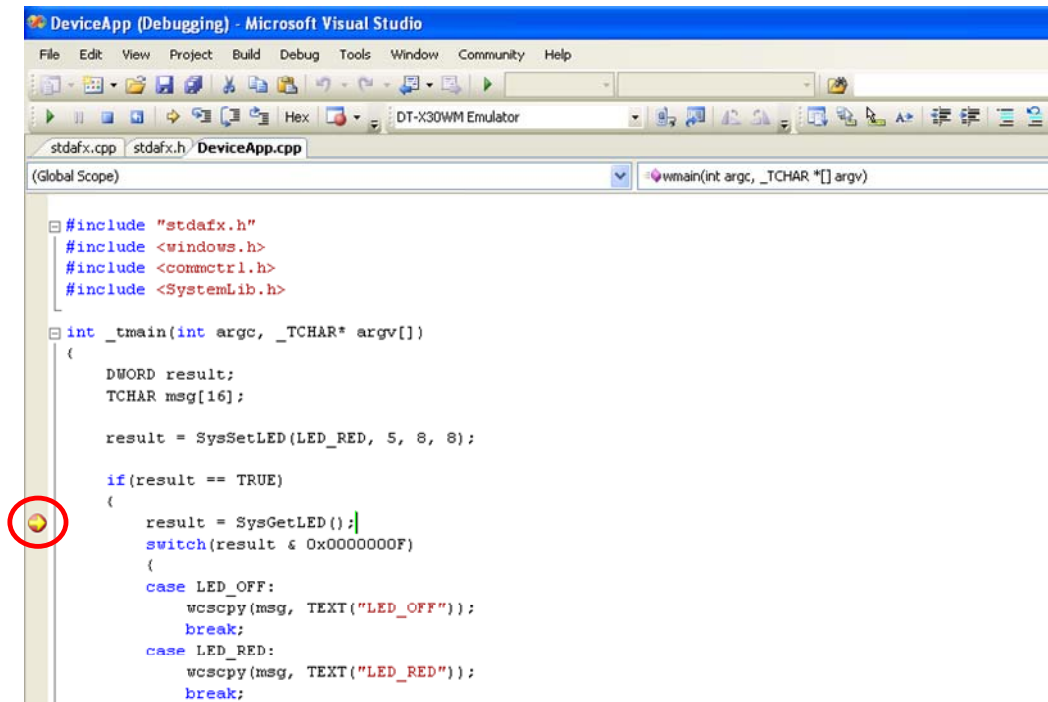

Figure 7.20
2. Similar to ordinary debugging operations with an actual DT-X30WM, the **Device Emulator** allows break point setting (circled in red in Figure 7.20) in the source code and step-by-step debugging.